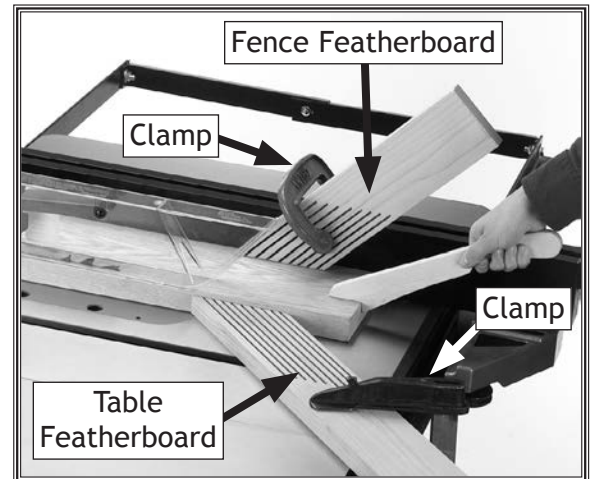

Figure 67. Example photo of featherboards mounted with clamps.
4. Place a featherboard on the table so all fingers point forward and contact the workpiece evenly (see **Figure 67** for an example).
7. Mount a second featherboard to the fence with another clamp, then repeat **Step 6** to ensure it is secure (see **Figure 67**).